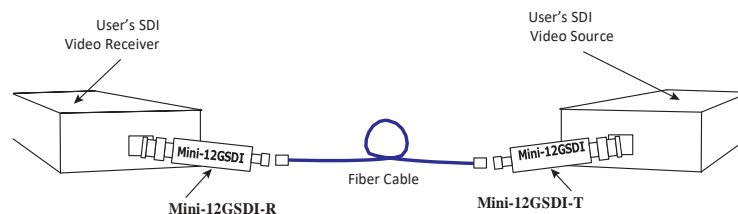

Figure 2-3
3. Cross-connect the fibers from one unit to the other connecting the near end Mini-12GSDI unit's optical TX port to the far end Mini-12GSDI unit's optical RX port as illustrated in Figure 2-3. Observe the type of connector you have and connect the optical connector by referring to the legend provided in Table 1, and following the instructions and guidelines.